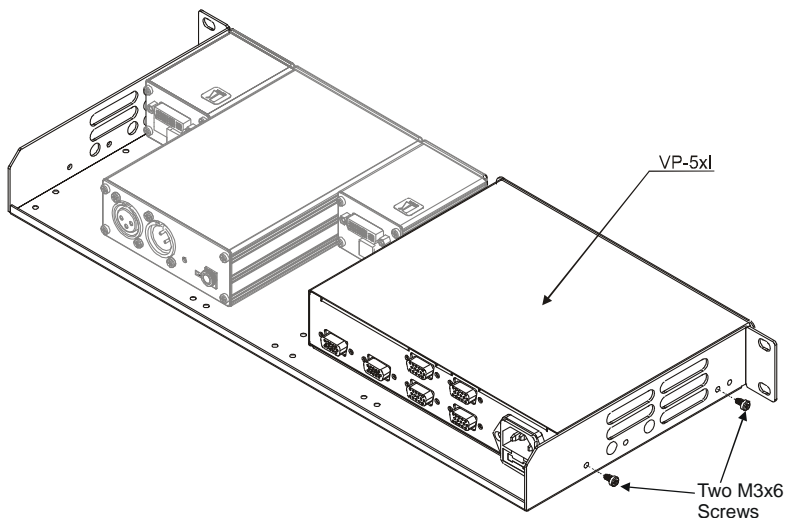
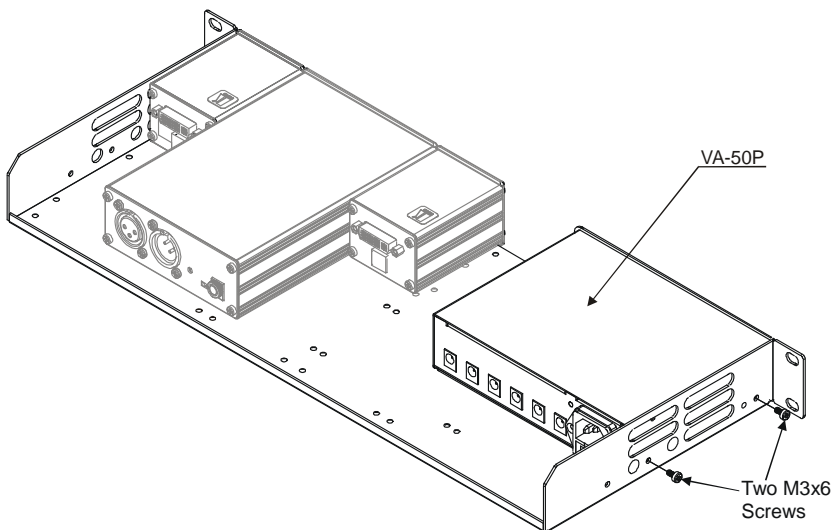

Figure 3: Mounting a half-19" unit via Screws on the RK-1 Side Panel
Figure 4: Mounting a 6.5" Machine via Screws on the RK-1 Side Panel
To mount the units on the **RK-1** as illustrated in Figure 3 and Figure 4 (**VP-5xl** and the **VA-50P** respectively), do the following:
3. Insert the two M3x6 screws through the holes on the side panel of the **RK-1** that fit the holes on the side panel of the unit (as illustrated in Figure 3 and Figure 4).